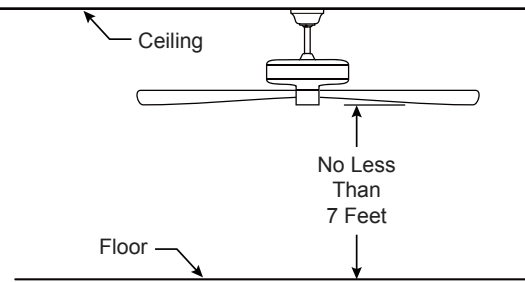
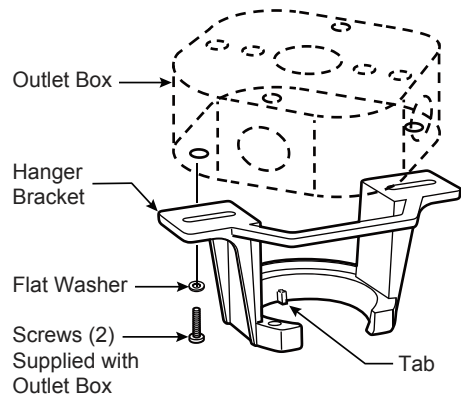

Figure 2
Figure 3
Your new ceiling fan will require a grounded electrical supply line of 120 volts AC, 60 HZ, 15 Amp Circuit. Electrical code requires use of a fan-rated outlet box to support the extra weight and motion associated with a ceiling fan. A fan-rated outlet box will be labeled as such and typically supports up to a 70lb ceiling fan. Fan-Rated Outlet Boxes vary in ratings and design. Ensure the ratings of your ceiling fan outlet box meet the requirements for the ceiling fan being installed. Figure 1, Figure 2 and Figure 3 depicts different structural configurations that may be used for mounting the outlet box.
Deep outlet box (Figure 2)
Deep outlet box with brace (Figure 3)
2. Remove the two set screws and locking nuts in the downrod support of the motor assembly and retain for reinstallation in Step 4 of the **How to Assemble Your Ceiling Fan** section, Page 8. Remove the six screws at the top of the motor assembly and retain them for next step. (Figure 2)
3. Assemble the upper housing to the motor assembly using the previously removed screws. (Figure 3)
2. Remove the hairpin clip and clevis pin from the bottom of the downrod. Retain the pin and clip for reinstallation in Step 4. (Figure 2)
3. Route red, gray and yellow wires through the downrod. (Figure 3)
The fan must be hung with at least 7' of clearance from floor to blades. (Figure 2)
1. Securely attach the hanger bracket to the outlet box (not included) using the outlet box screws and washers supplied with the outlet box. (Figure 3)
To avoid possible electrical shock, be sure electricity is turned off at the main fuse box before wiring. (Figure 2)
2. Slide the receiver into the hanger bracket before wiring as shown in figure 3.
- ☐ 2. Securely attach and tighten the canopy screw cover over the shoulder screws in the hanger bracket utilizing the keyslot twist-lock feature. (Figure 2)
- ☐ 2. Restore electrical power to the outlet box by turning the electricity on at the main fuse box. (Figure 2)
- ☐ 3. To make fan operational, remove battery insulator pull tab before use transmitter. Then, follow the remote code setting process. If not used for long periods of time, remove battery to prevent damage to transmitter. Store the remote away from excessive heat or humidity. (Figure 3)